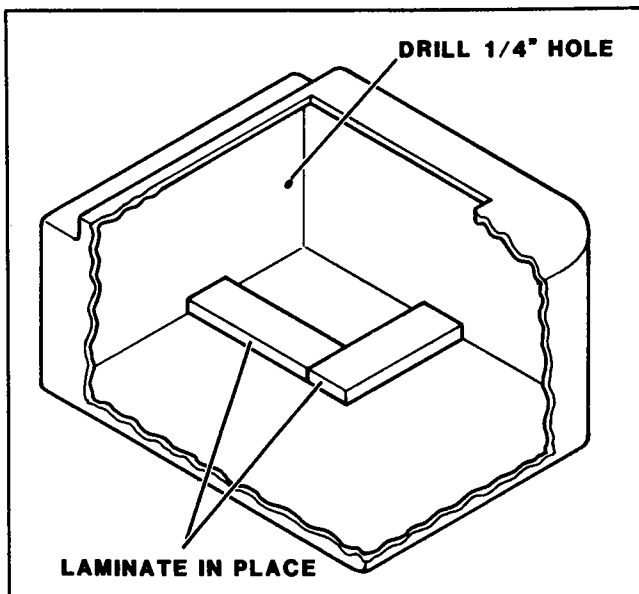

Figure 31. Tank Installation
12. Using the water tank as template, mark locations for installation of two 1x2x4 wood blocks (figure 31). Remove tank and laminate blocks in place .
13. Drill a 1/4-inch hole through left wall of seat compartment and install cap screw, washer, and insulated clip as shown in figure 31.